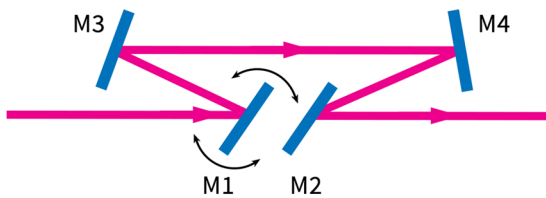

Figure 1. Beam diagram of collinear shutter. M1-rotating galvo mirror, M2-M4-adjustable 100% metal mirror.
Construction of the shutter is based only on reflecting non-focusing optics and is presented in Fig.1.
5. Now the beam path should correspond to Fig. 1. Thus the beam should be fully transmitted through the shutter and should be visible on the screen at the output of the shutter.